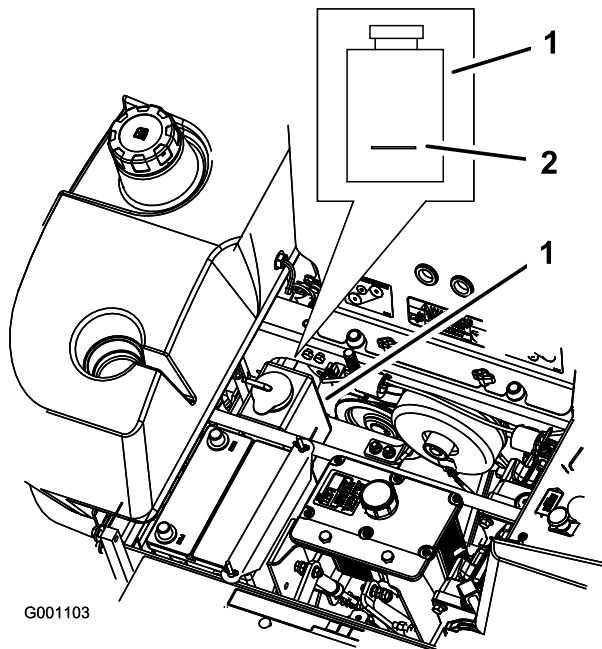

Figure 54
3. With the engine cool, check the overflow bottle level. The fluid needs to be up to the bump on the outside of the overflow bottle (Figure 54).
4. If the coolant level is low, add a 50/50 mix of extended life antifreeze/Dex-Cool® and water to the overflow bottle (Figure 54).
5. Add the 50/50 coolant mix to the overflow bottle and fill it to the indicator line on the bottle (Figure 54).